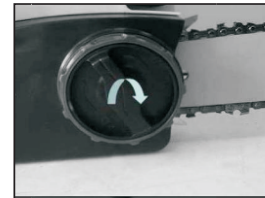

Fig 5
h) Making sure the chain properly seated in guide bar rail and guide bar is fixed then locking knob should be rotated clockwise until it stops. (Fig.5)